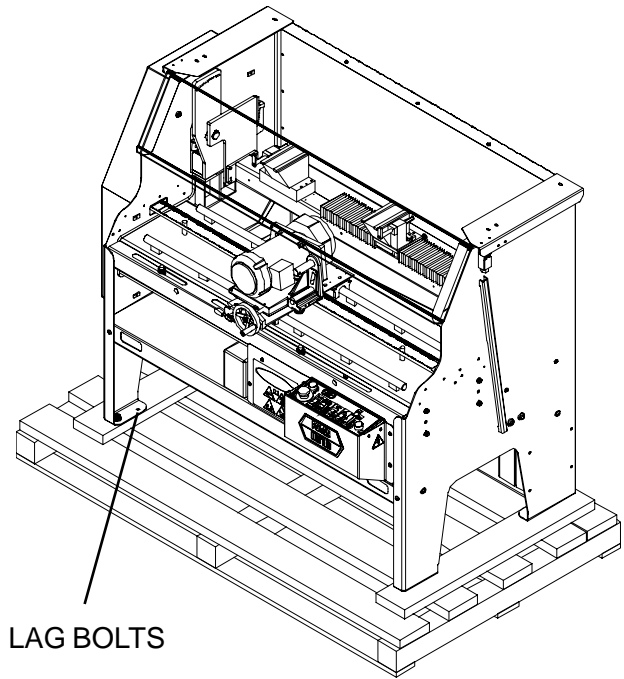

FIG. 1
1. Unbolt the Grinder legs from the bottom pallet. (There are 2 - Lag bolts on each leg. See Fig 1.)